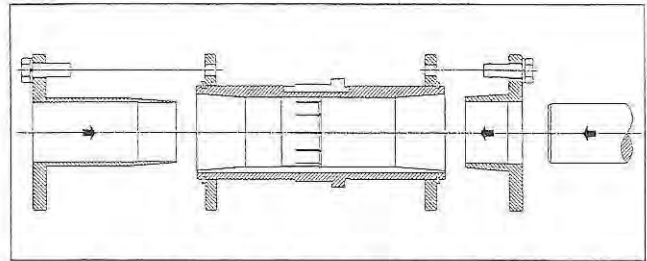

Figure 6 – Short Shaft Bushing and Output Hub Assembly
2. The long bushing is designed to be installed from the side of the reducer opposite the driven equipment as shown in Figure 6. The long bushing when properly installed is designed to capture the end of the customer shaft that does not extend through the reducer. Normally the reducer would be mounted such that the input shaft extends from the side of the reducer opposite the driven equipment however the reducer design allows installation of the reducer to be mounted in the opposite direction.
hub, install the flange end first so that the thin taper is pointing outwards towards the long bushing as shown in Figure 6. The wedge is properly installed when it snaps into place in the reducer hub.